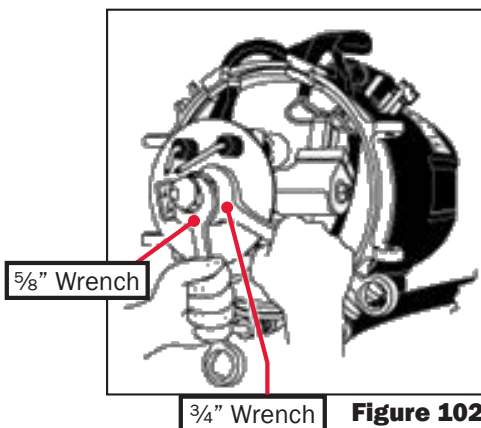

Figure 102
1. Use a $\frac{3}{4}$ " wrench to hold the fuel nozzle stand hex while loosening the fuel nozzle with a $\frac{5}{8}$ " wrench and remove as shown in Figure 102.